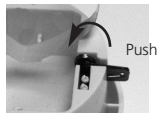

FIGURE 5
- 4). When installing the battery, press the battery reminder finger down into the battery compartment and install the battery (see Figure 5).